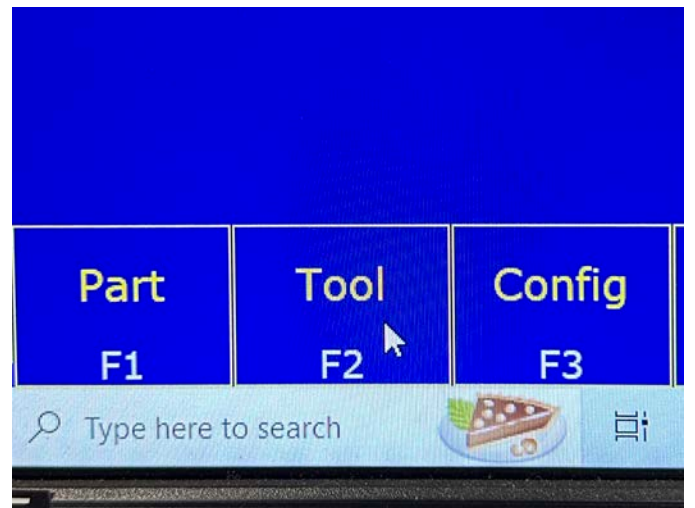

FIGURE 30
6. Click on Tool F2 (see Figure 30).